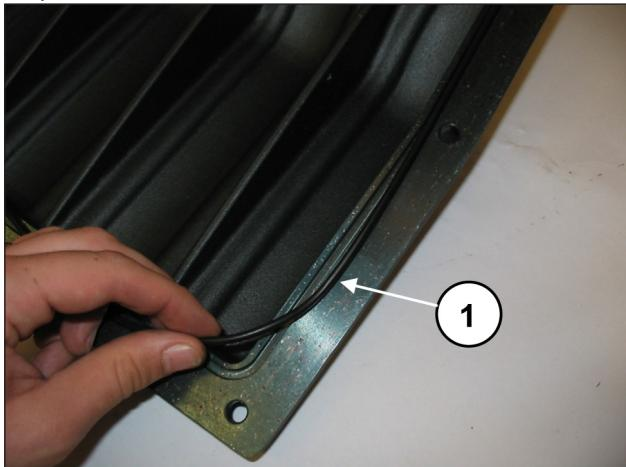
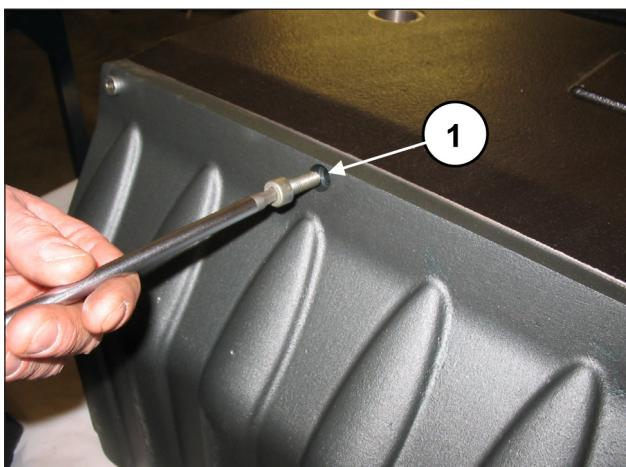

Fig. 91
Fig. 92
Insert the O-ring on the rear cover (pos. ①, Fig. 91) and fasten it to the casing with 10 M8x20 screws (pos. ①, Fig. 92). Calibrate the screws with a torque wrench as indicated in chapter 3.